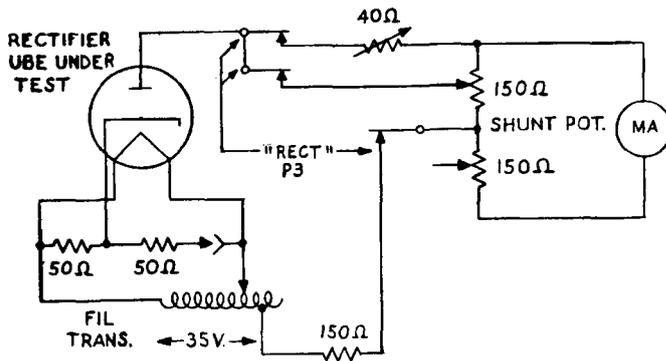

Fig. 3 - Standard Rectifier Test Circuit
2.22 When testing a rectifier type tube the set is arranged as shown in Fig. 3. Each anode is tested separately. The 83-type tube has no function in this circuit arrangement, the rectifier plate circuit under test being substituted for one side of it. A current limiting resistance of 150 ohms is in series with the tube under test and the micromhos meter reads directly proportionally to the rectified a-c current as indicated on the meter scale.